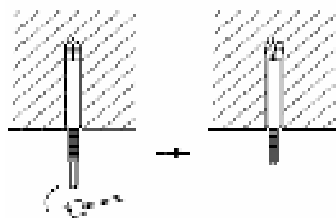

Fig.39
- (1) Insert a M10 expansion bolt into the hole. Drive a nail into the bolt. Refer to the profile dimensions drawing of the indoor unit for the distance between the holes. Refer to Fig. 39 for the installation of the expansion bolt.